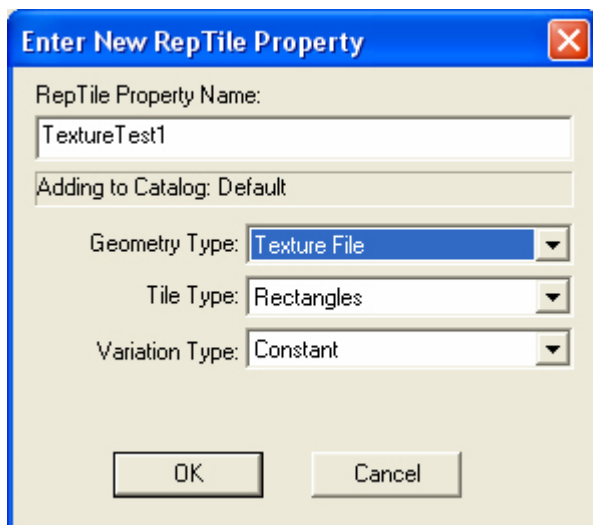

Figure 20. Enter New RepTile Property dialog.
3. Enter the data as shown in Fig. 20,